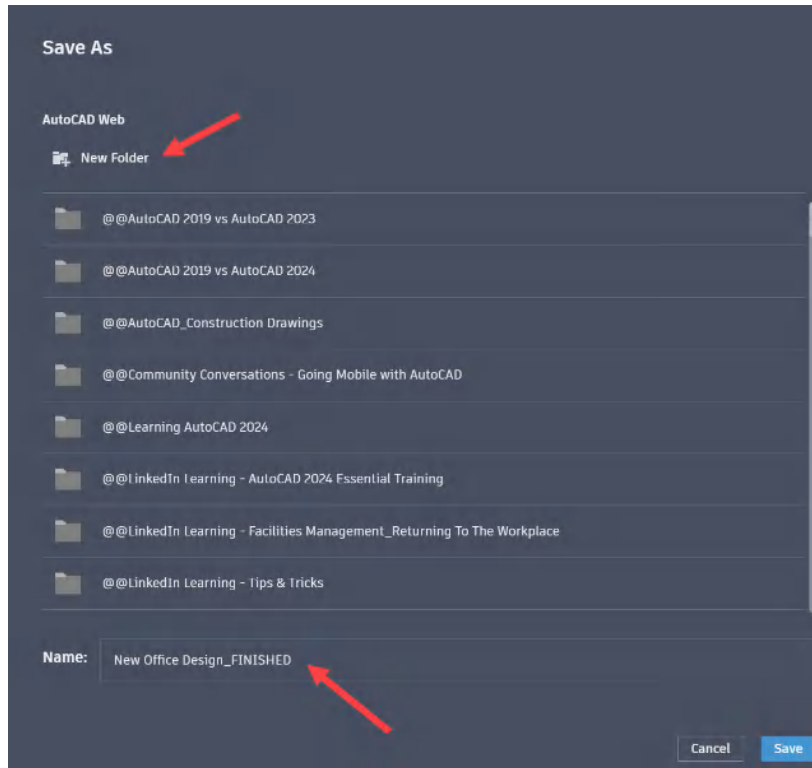

Figure 13.6: The Save As dialog box with New Folder arrowed
2. The **Save As** dialog box will appear, as shown in *Figure 13.6*. Click on **New Folder** to create a new folder for your shared drawing.